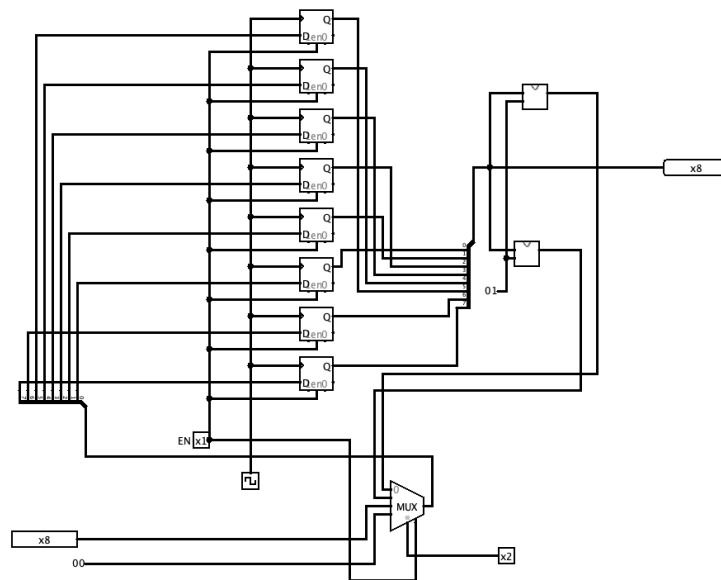

Figure 1: Logisim Circuit For Part-1a
The 8-bit register has increment,decrement,clear and load functionalities that are controlled by 2-bit control signals (FunSel) and an enable input (E) is implemented as shown in the Figure 1.
As shown in Figure 1, there are following components in our design: